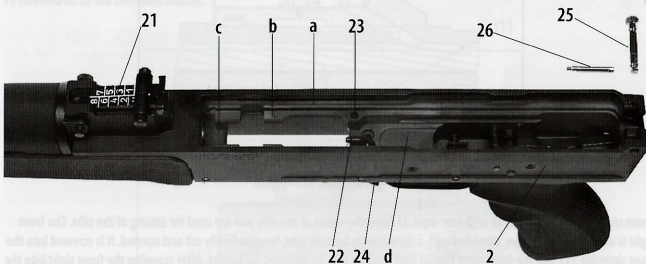

Fig. 8 The receiver assembly /top view/
The receiver (Fig. 8) is one of the main parts of the rifle; it joins the other rifle parts together as a whole and guides the bolt. It consists of the receiver proper 2, rear sight assembly 21, ejector 22, bolt catch 23, magazine catch 24, receiver cover pin 25 and receiver cover pin safety pin 26.
Ejector 22 (Fig. 8) is placed in the grooves in the upper part of the bridge. The ejector is locked against shifting out by means of the dimple. The face surface of the ejector is chamfered so as to ensure that the contact of the ejector with the base of the cartridge case is almost one-point and on the left of the vertical axis of the firing pin when the cartridge is ejected. This guarantees that the direction of the ejection of the cartridge case ejected from the rifle is correct, i.e. upwards and to the right.
In the bottom of the receiver are two rectangular openings. The trigger passes in to the first one while the other is designed for seating the shaped nut of the grip screw. Trigger guard 28 is riveted to the bottom of the receiver. The rear wall of the receiver is provided with a thread for fixing the stock to the receiver's rear face and additionally with a groove for fixing the return mechanism. The position of the stepped return mechanism is locked by receiver cover pin 25 (Fig. 8) which is kept in position by the force of receiver cover safety pin 26 which presses against the two circumferential grooves of the receiver cover pin. Receiver cover safety pin 26 is mounted vertically in the wall of the receiver rear right-hand corner and is pushed by the rear arm of the trigger mechanism feather.
**Return mechanism base 38** unites all the parts of the return mechanism in order to form one unit. The base is riveted with receiver cover 381. The base is formed by a plate to which return spring guide 385 and striker spring guide 383 are fixed. In the rear wall of the base is a projection by means of which the return mechanism base is positioned in the recess in the rear part of the receiver. In order to prevent the receiver from falling out, the base is locked by receiver cover pin 26 (Fig. 8).